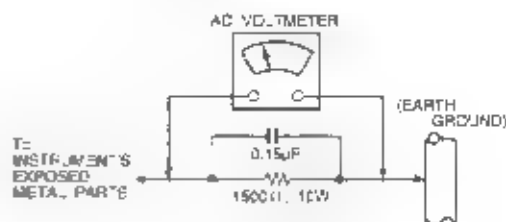

Fig.1
- 5-2 Connect a 1500 ohm, 10 watt resistor, paralleled by a 0.15µF capacitor between each exposed metallic part and a good earth ground (as shown in Fig.1)